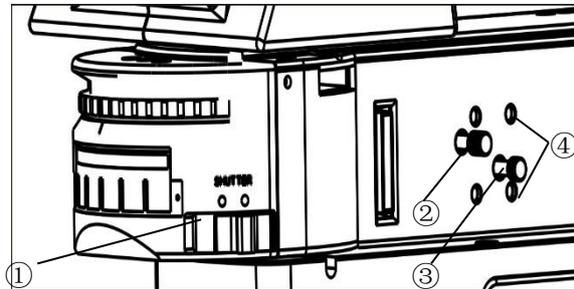

Fig.24
**3-20 Aperture diaphragm use (Fig.24, 25)**
7. Push the aperture diaphragm out of the pull rod ③ until the aperture diaphragm is at its minimum diameter.
8. Push the pull rod ② through the field diaphragm until it reaches the minimum diameter of the field diaphragm. Meanwhile, the aperture diaphragm image can be seen on the opposite central plate.
9. Insert the hex wrench into two aperture diaphragm alignment screws ④, the aperture image adjusted to aperture matches the "cross" image.
You must push the aperture diaphragm lever (Num ③ in Fig. 24) to open the aperture diaphragm.